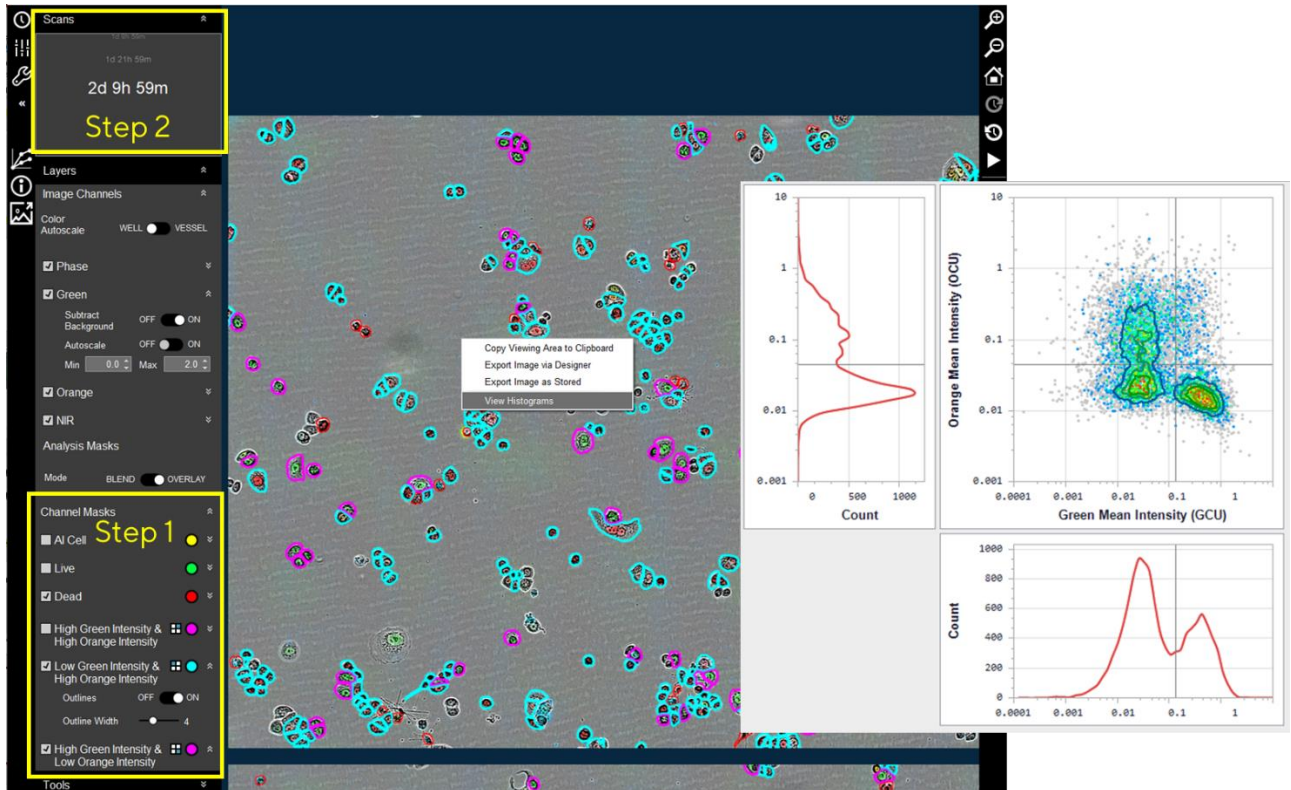

Figure 9. Visualization of changing populations within each image over time.
1. Once a classification job has run, the subsets can be visualized using color-coded masked images (Figure 9). Each classification or subset can be given a user-defined color code (halves/quadrants). To do this, choose the quadrant/s you would like to visualize (Step 1) and turn on outlines (optionally adjust color), and view how the distribution into classes changes over time (Step 2).
2. It is also possible to view histograms per well at individual time points by right-clicking on an image and selecting view histogram (Figure 9).